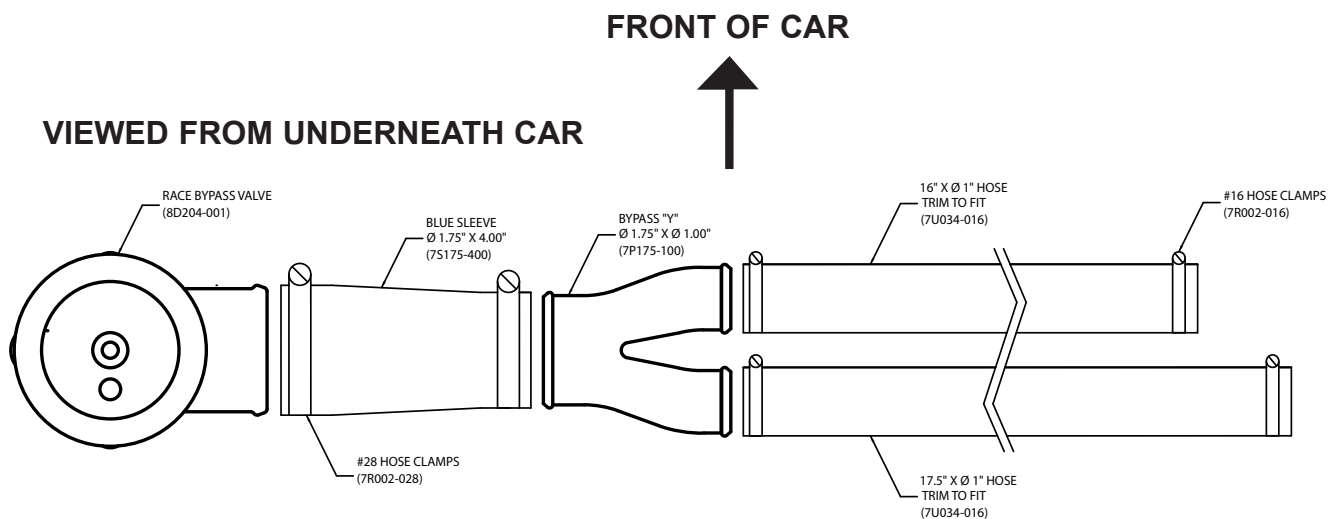

Fig. 8J
1. Assemble the bypass using the supplied Maxflow Race Bypass valve,  $\text{\O} 1.75$ " silicone coupler with two #28 hose clamps, Bypass "Y", and two lengths of 1" hose cut to lengths of 16" and 17.5" with four #16 hose clamps. (See Fig. 8J)